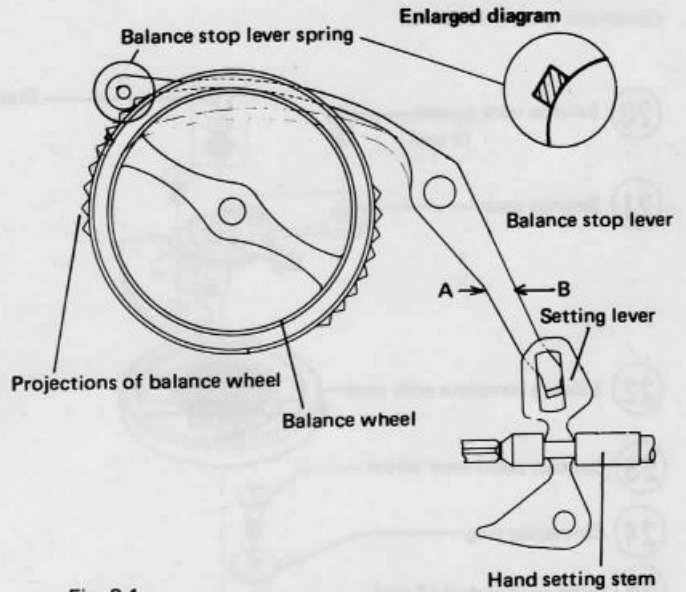

Fig. 3-1
(1) Referring to Fig. 3.1, with the hand-setting stem in a drawn-out condition (a condition of second setting), and with the rectangular slot of the balance stop lever along with play of the setting lever moved in the direction of the arrow (A), adjust the relation between the balance stop lever spring and the projections of the balance wheel by bending the balance stop lever spring so that the balance stop lever spring is prevented from pressing against the balance wheel.
(2) Likewise, with play of the balance stop lever moved in the direction of the arrow (B), adjust the above relation as follows: